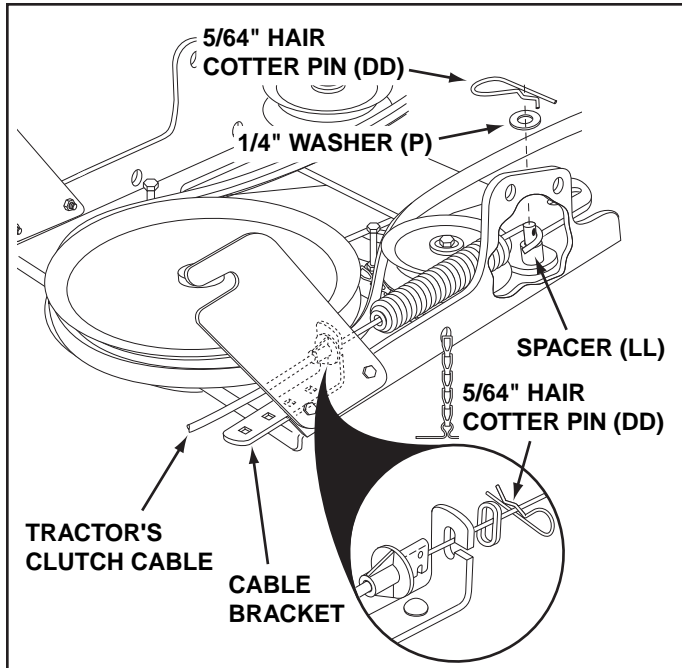

FIGURE 11
**STEP 11: (SEE FIGURE 11)**
- Attach the tractor's mower clutch cable to the cable bracket on the clutch/idler assembly. Secure the cable housing guide (groove down) to the cable bracket using the original collar and a 5/64" hair cotter pin (DD).
- Place a spacer (LL) on the welded pin on the idler arm. Hook the end of the clutch cable spring over the pin and secure it with a 1/4" washer (P) and a 5/64" hair cotter pin (DD).